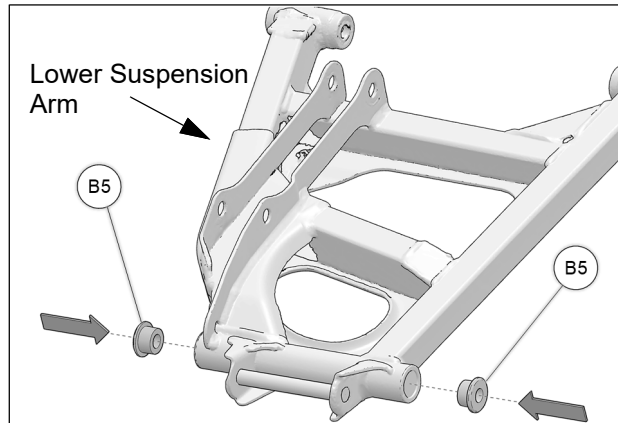

Fig. 4
4. Insert step bushings (**B5**) at both ends of suspension arm tube, as shown below. See Fig. 4